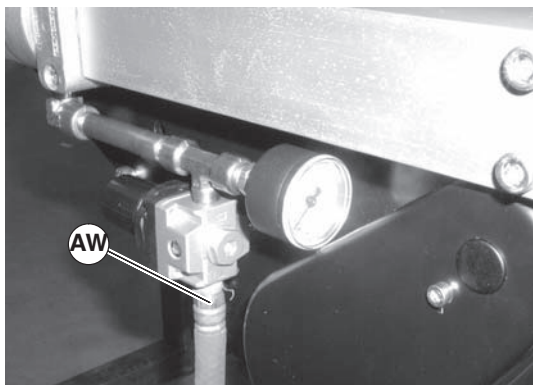

Figure 22
1. Remove air supply and remove hose (Figure 22, item AW) from center drive.